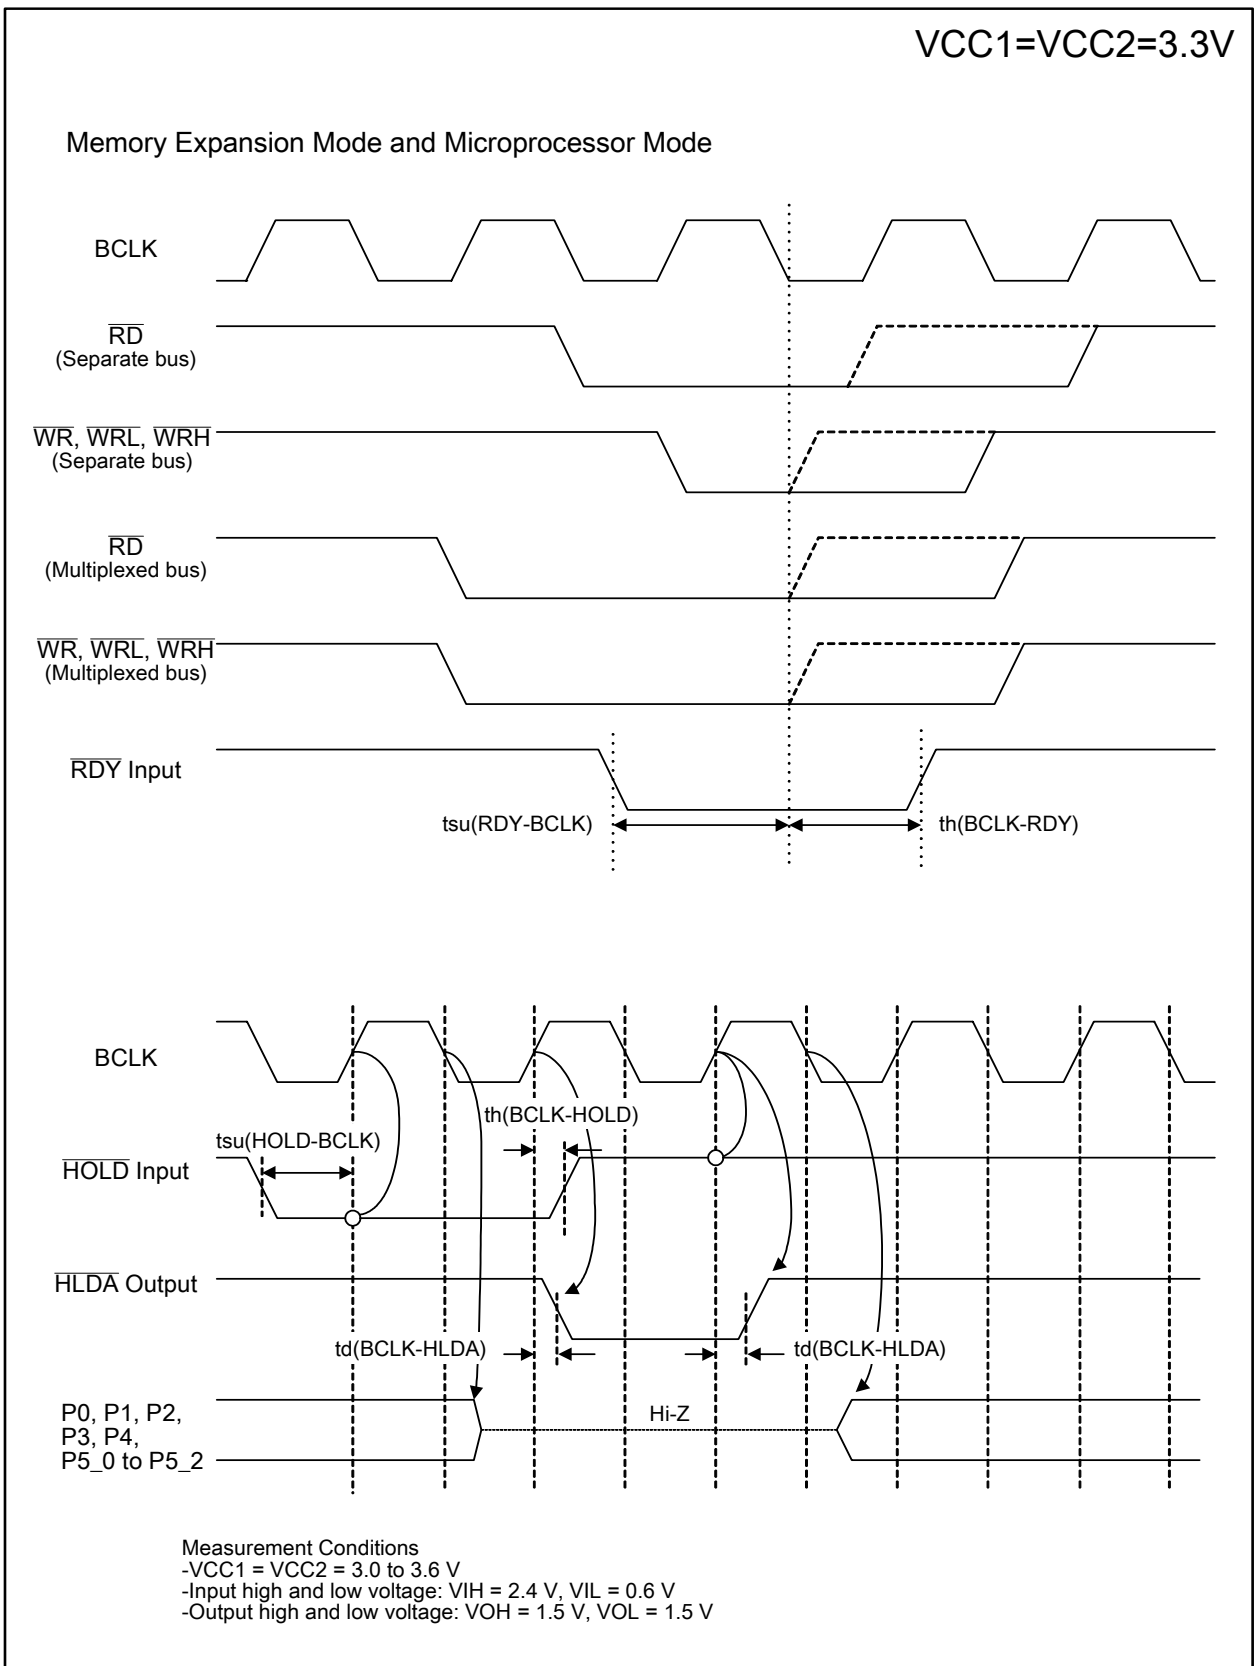

Figure 5.8 VCC1 = VCC2 = 3.3 V Timing Diagram (2)
72	<ul style="list-style-type: none"> • Figure 5.8 Vcc1=Vcc2=3.3V Timing Diagram (2) $t_{ac2}(RD-DB)$ and $t_{ac1}(AD-DB)$ expressions on note 1 modified; $t_h(ALE-AD)$ expressions on notes 1 and 2 modified; $t_d(WR-AD)$, $t_d(DB-WR)$ and $t_h(WR-DB)$ expressions on note 2 modified; t_{cyc} expression added